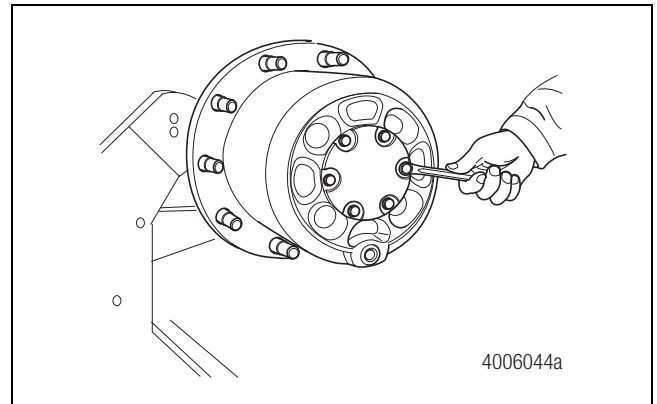

Figure 3.1
2. Use a wrench to remove the hub cover capscrews. Figure 3.1.